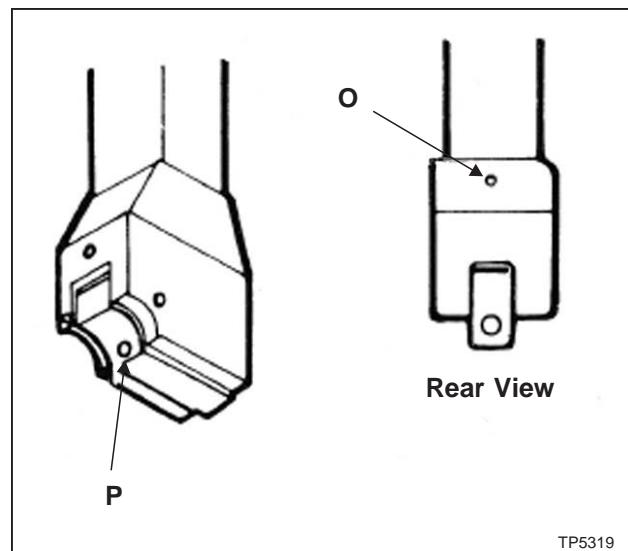

Figure 2.35 - Swiveling E-Head
1. Loosen the two set screws "O", Figure 2.35.